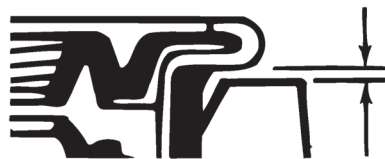

Figure 5.68
- If the gap varies more than 0.010-inch (0.254 mm) between the highest and lowest measurement, remove and reseal the seal. Figure 5.68.